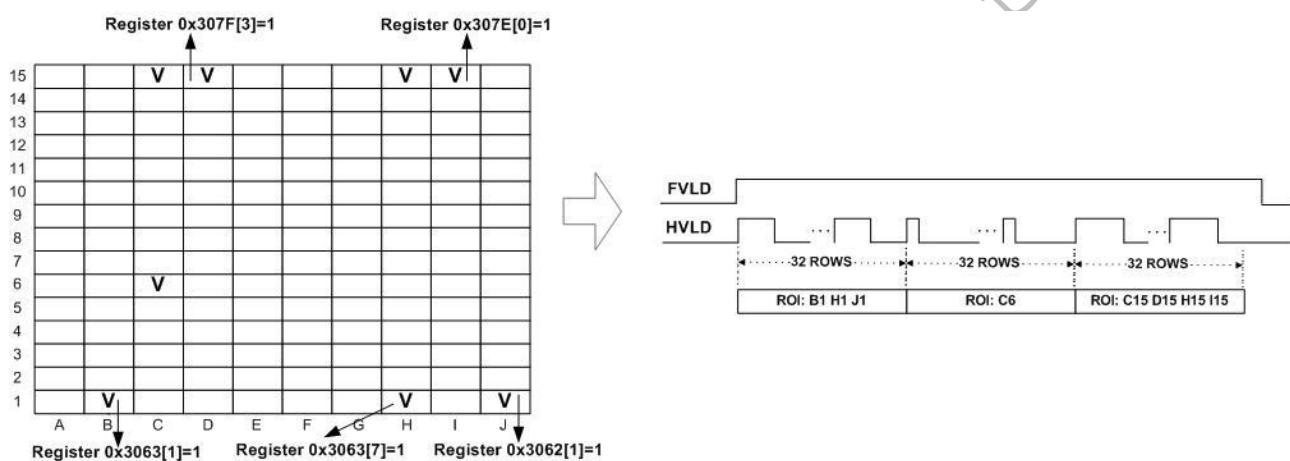

Figure 3.6: VGA ROI window readout with parallel interface
The HM0360 supports Region of Interest (**ROI**) window readout mode. The array is partitioned into 10(H) x 15(V) independently addressable ROI blocks. As shown in the ROI example below, the ROI selection is independent, and the frame timing will need to be programmed and adjusted based on the selected active region as shown in the Figure 3.6. The resolution of each ROI block is scaled based on the binning / subsampling mode as described in Table 3.1.